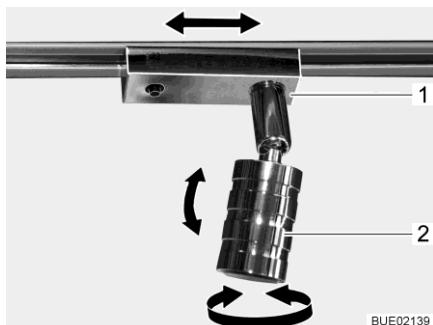

Fig. 28 Spotlight
- Turn housing (Fig. 28,2) of the spotlight to the desired direction.
- Turn socket (Fig. 28,1) through approx. 45°.
- Turn socket (Fig. 28,1) through 90°.